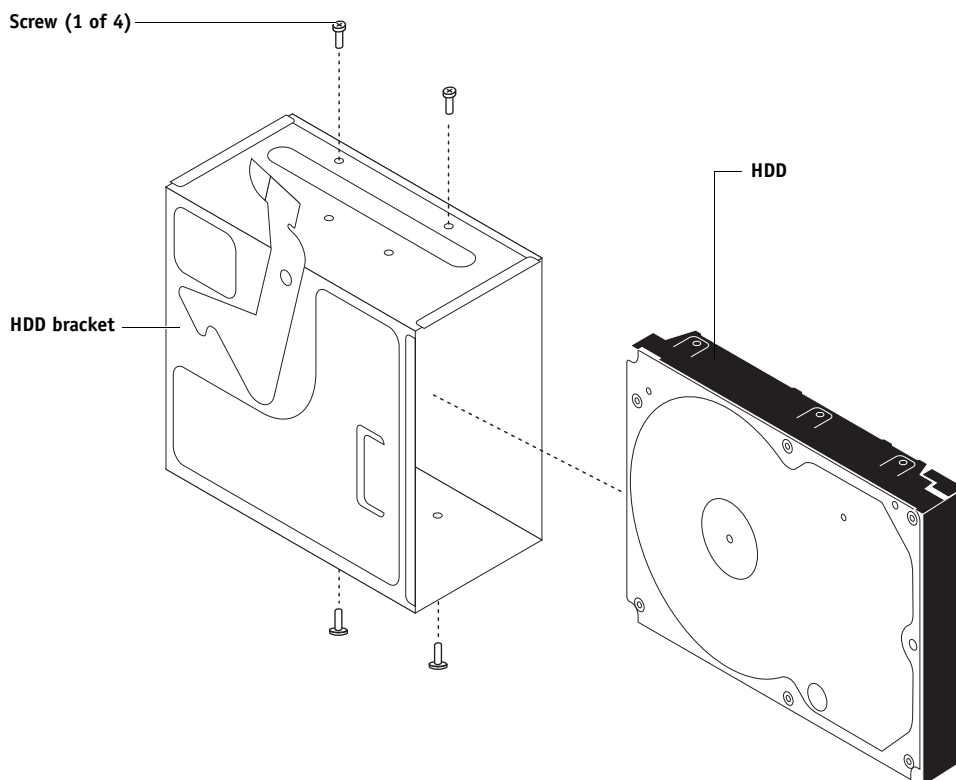

FIGURE 32: Removing the HDD from the HDD bracket
7. Remove the four screws that attach the HDD to the HDD bracket (see Figure 32 on page 90).
2. Position the HDD inside the HDD bracket and align the front-most mounting holes on the HDD with the four holes in the bracket (see Figure 32 on page 90).